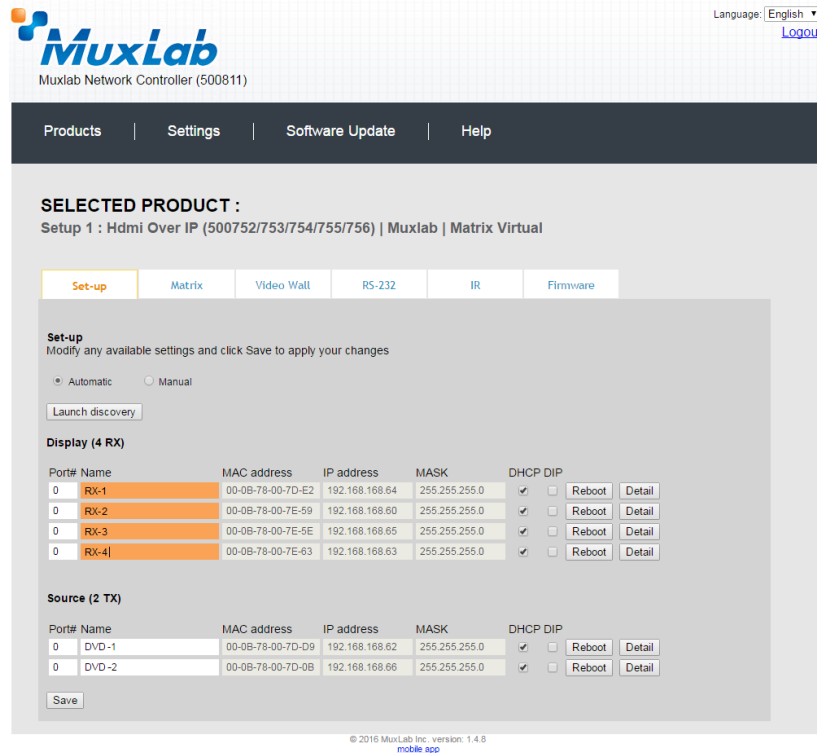

Figure 25: Name Editing
Each 500752 transmitter and receiver can be assigned an arbitrary descriptive name, normally reflecting the end device that it is terminated to. To change the name of any Display (RX) or Source (TX) device, click the **Name** field to edit its contents. Several **Name** fields can be edited before saving changes, as shown in Figure 25 (orange highlighted fields).